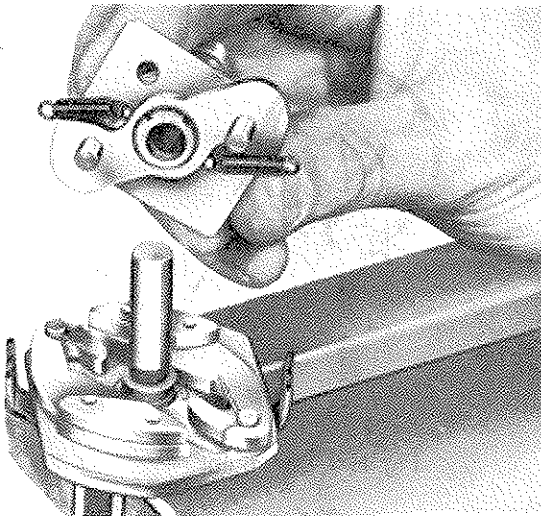

Fig. H5. Fitting the breaker cam
2. Fit the centrifugal weights and also the lock-springs on to the weights. Fit the breaker cam on the distributor shaft, Fig. H5. Hook the springs for the centrifugal governor. Install the washer and circlip for the breaker camshaft. The circlip can be fitted into position by means of a suitable sleeve. Fit the lubricating felt.